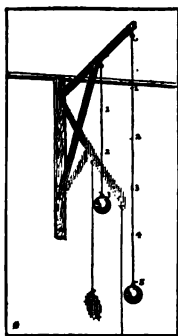

FIG. 140. The shorter the pendulum the faster it vibrates.
**Exercise 6.** Take two weights of the same material and size, and cords of different length (Fig. 140). Which moves the faster? Is it true that the shorter the pendulum the faster it vibrates? This is the third law of the pendulum, and it is an important one.